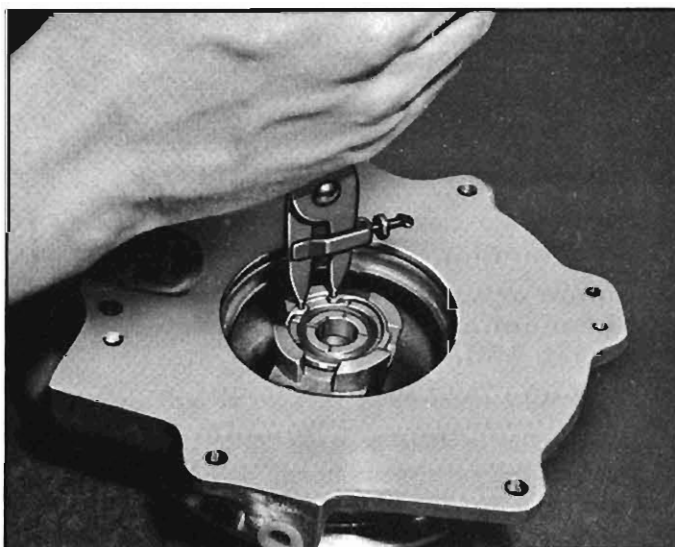

Fig. 9-46—Removing Bearing Retainer Ring
9. Remove the bearing retaining ring (fig. 9-46), then remove the bearing and shim.